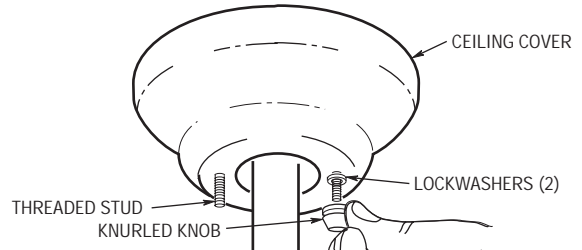

Figure 13
4. Lift the ceiling cover up to the threaded studs and turn until studs protrude through the holes in the ceiling cover (Figure 13).
5. Secure the ceiling cover in place by sliding lockwashers over the threaded studs and installing the two knurled knobs (supplied). (Figure 13.) Tighten the knurled knobs securely until the ceiling cover fits snugly against the ceiling and the hole in the ceiling cover is clear of the downrod. Your fan is now wired to be turned on and off from the fan switch.